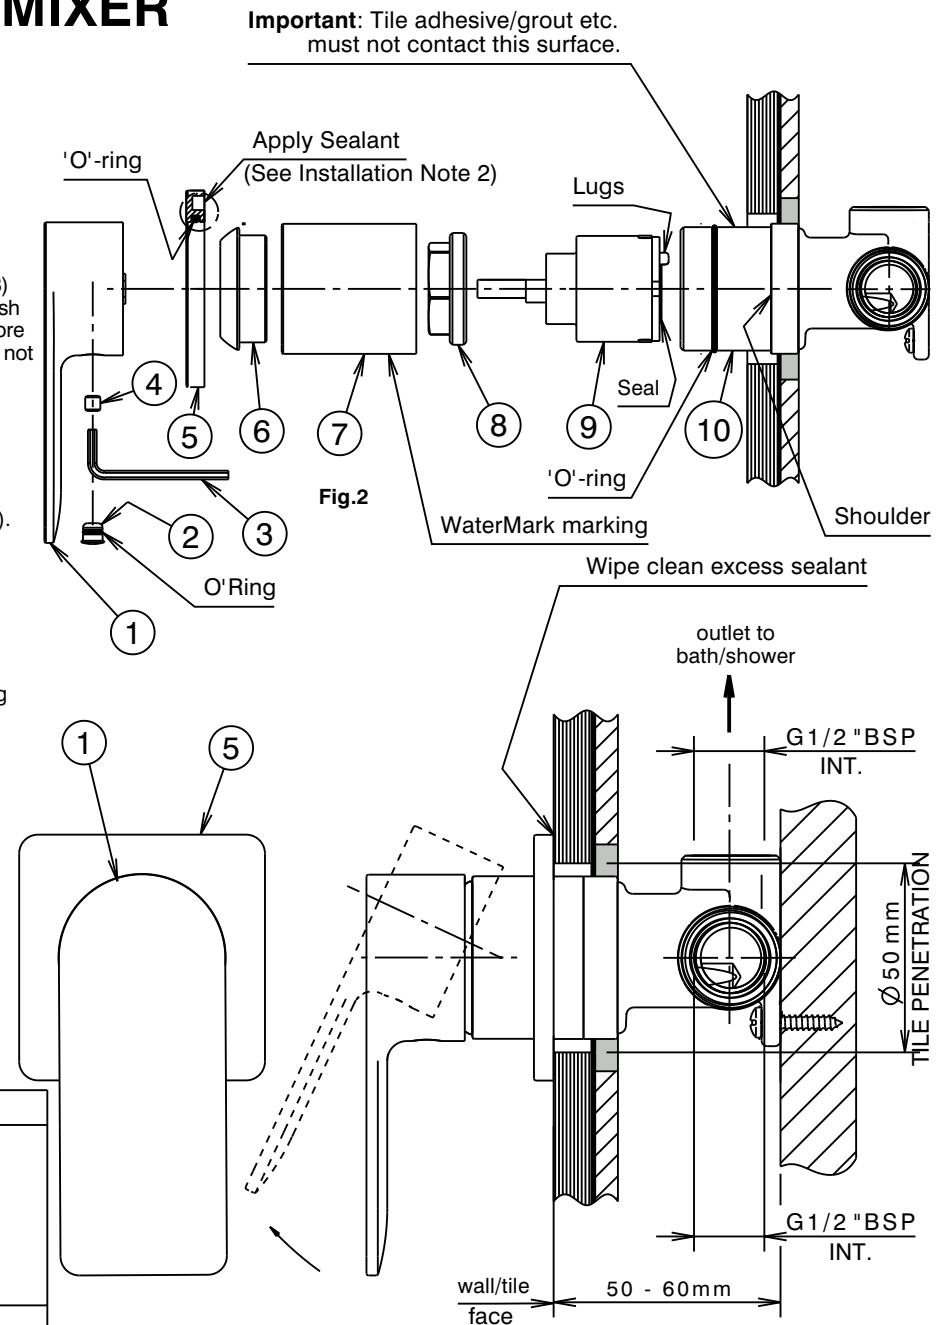

Fig. 1
#### Installation (Fig. 1 & 2)
- \* Mixer body (10) must be installed square to wall/tile face, to ensure cover plate (5) sits flush.
- 2) **Trim Kit:** Remove protective cap from mixer body (10). Ensure the external surface of the mixer body (10) is clean, apply lubricant on the 'O'-ring, then slide sleeve (7) (with WaterMark marking underneath) over mixer body (10) up to the shoulder as shown. Screw cap (6) onto the thread of nut (8) and hand tighten to secure the sleeve (7).
- 3) Apply a suitable clear sealant to the back edge of the cover plate (5), leaving an unsealed section at the bottom for drainage. Carefully slide the cover plate (5) (fitted with 'O'-ring) over the mixer body sleeve (7) with the 'CAROMA' logo aligned at the bottom. Push the cover plate (5) firmly against the wall/tile face. Wipe/clean excess sealant from the trim surfaces & the wall/tile face (See Fig. 1).
- 4) Fit handle (1) taking care that it is pushed fully onto cartridge stem, then tighten grub screw (4) using the 2.5mm allen key (3). Fit plug (2), taking care not to damage the decorative finish.